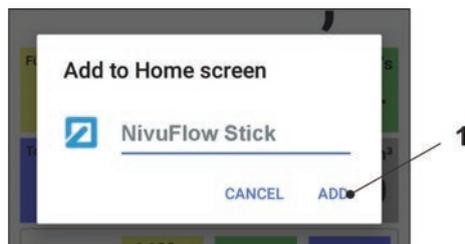

Fig. 26-7 Confirm adding
9. Confirm with "Add" (Fig. 26-7 Pos. 1).